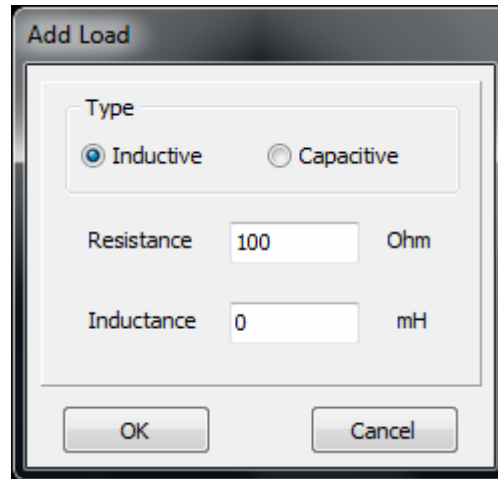

Fig. 8.7: Add Load dialog box.
Displays the Add Load dialog box for adding a load to the selected segment in the wire, Fig. 8.7. A load can either represent a resistance in series with an inductance or a resistance in series with a capacitance.
4. Press the Add Load button to display the Add Load dialog box, Fig. 8.7.